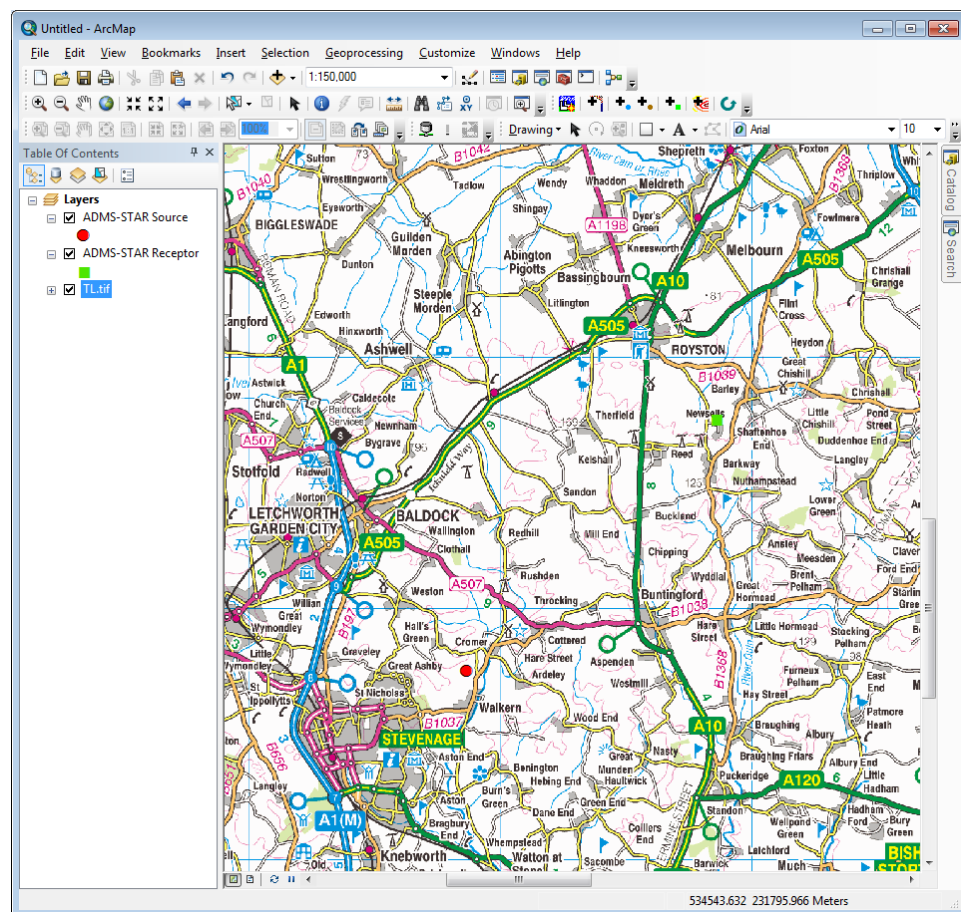

Figure 7.28 - Example 4: defining the source location in ArcMap. Source location shown by a red dot.
- Step 6** Zoom in on the area of the map shown in **Figure 7.28** using the **Zoom In**  tool. Click the **Define the source datum**  button from the ADMS-
STAR toolbar and then click on the map to add the source at a similar location to that shown in **Figure 7.28**.
longitude-latitude will either be known or can be obtained from the source X and Y datum using a coordinate conversion calculation. Online conversion tools exist for many of the world's commonly used coordinate systems. The longitude and latitude of the source shown in **Figure 7.28** are 0.208152° and 52.147569° respectively.